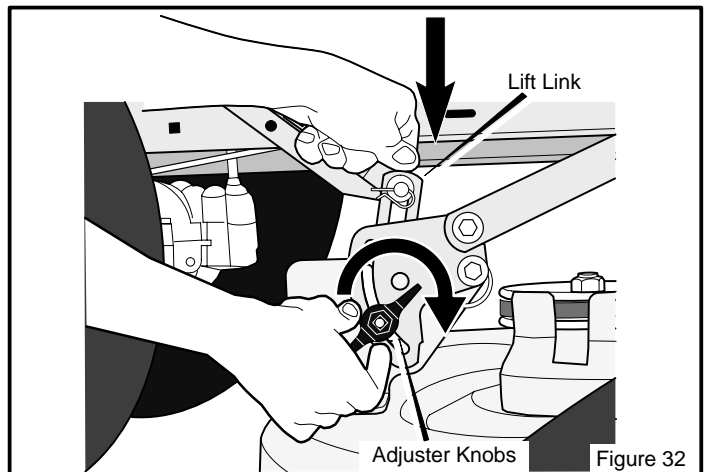

Figure 32
6. Loosen the left and right **adjuster knobs** (Figure 32). Push down on each side of the mower housing. Make sure both sides of the mower housing are setting on a flat surface. Also, make sure the lift links are loose and can easily move up or down.
7. Push down on the **lift links** and tighten the left and right **adjuster knobs** (Figure 32). Make sure the **adjuster knobs** are tight. If necessary, use a wrench to tighten the **adjuster knobs**. For plastic **adjuster knobs**, tighten to a torque of 7 foot pounds (9,5 N-m). For metal **adjuster knobs**, tighten to a torque of 10 foot pounds (13,5 N-m).